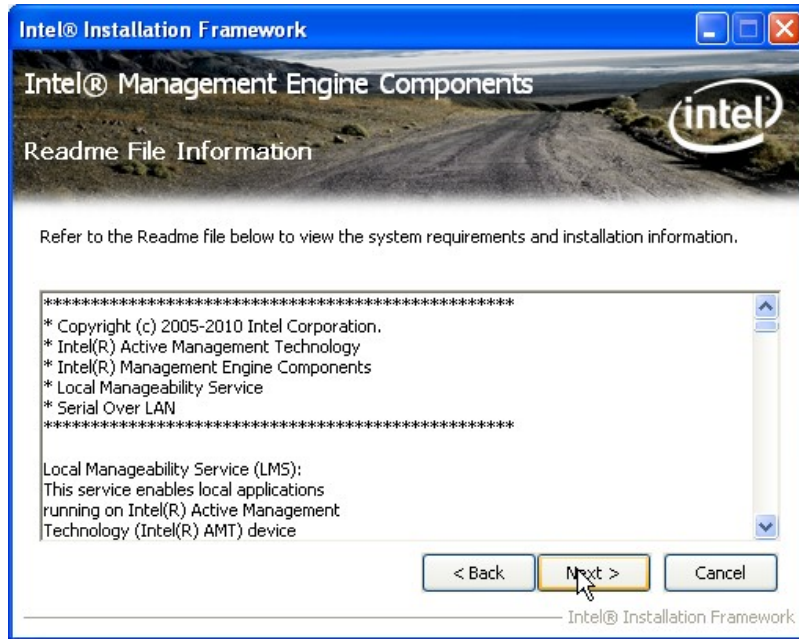

Figure 6-29: Intel® ME Driver Read Me File
Step 10: The Read Me file in **Figure 6-29** appears.